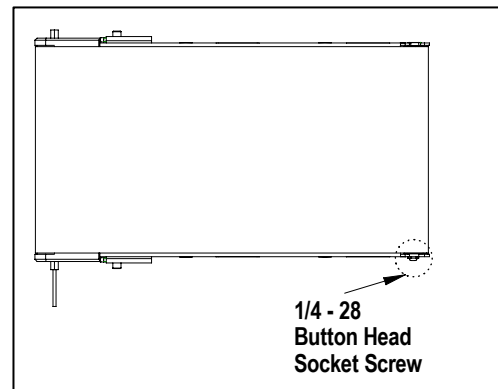

Figure 2
b. Position the conveyor for operation, taking care to note that access is needed for the tail idler's 1/4-28 Button Head Socket Screw (Figure 2) when other equipment is nearby. This is important when tensioning the belt from the tail end.